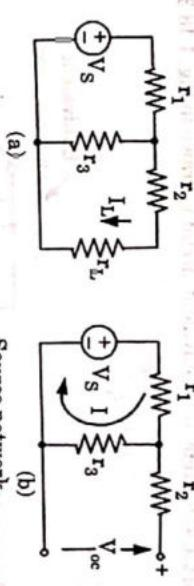

Fig. 1.17.1. (a) A simple DC circuit, (b) Finding of  $V_\infty$  (c) Finding of  $R_{TH}$  (d) Finding of  $I_L$  forming Thevenin's equivalent circuit.
- Let us consider a simple DC circuit as shown in Fig. 1.17.1(a). We are to find  $I_L$  by Thevenin's theorem.
- In order to find the equivalent voltage source,  $r_L$  is removed [Fig. 1.17.1(b)] and  $V_\infty$  is calculated
- Now, to find the internal resistance of the network (Thevenin's resistance or equipment resistance) in series with  $V_\infty$ , the voltage source is removed by a short circuit as shown in Fig. 1.17.1(c)
- As per Thevenin's theorem, the equivalent circuit is shown in Fig. 1.17.1(d).